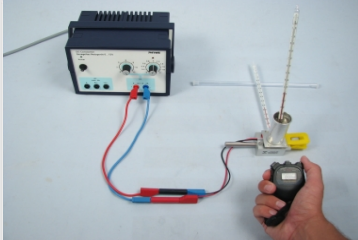

Figure 9
1. Measure the temperature ϑ_1 of the water and the temperature ϑ_2 of the aluminium block (currently $t \approx 0$) and note them down. Now switch on the power supply unit and note down the temperatures. ϑ_1 and ϑ_2 at the times $t = 1, 2, 3, 4, 5$ in your report (Fig. 9).